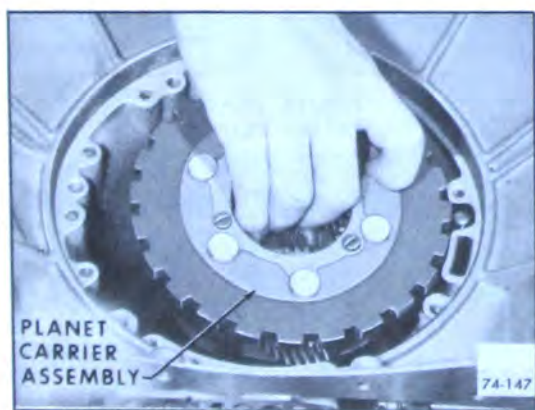

Figure 74-147
1. Remove planet carrier assembly from case, using extreme caution not to damage case bushing. See Figure 74-147.